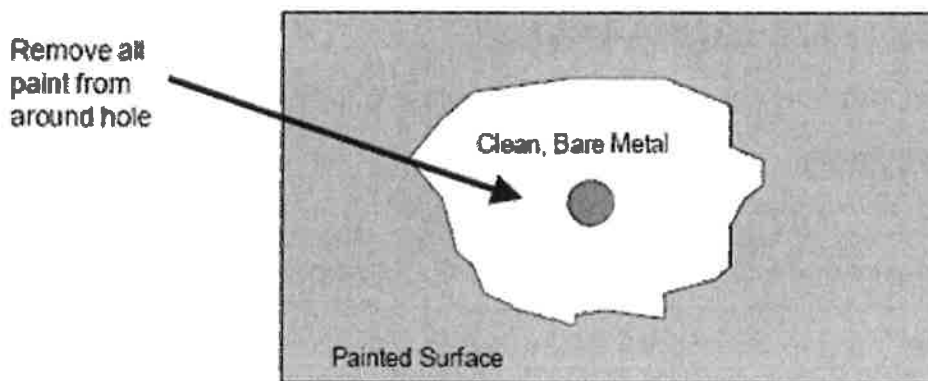

Figure 5: Mounting-Hole Paint Removal
- To ensure that the receiver enclosure is electrically at earth ground, remove all paint from the mounting-hole surfaces (refer to Figure 5).